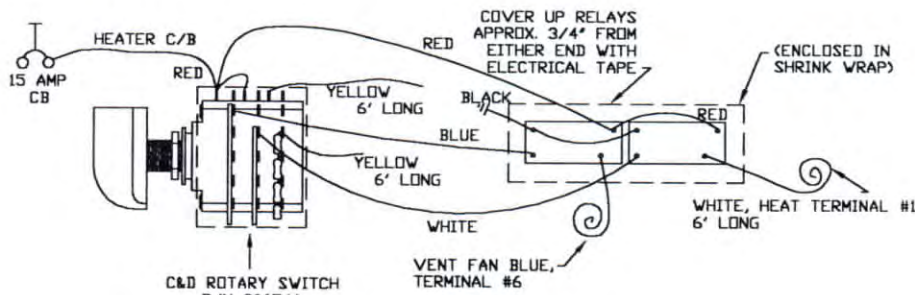

FIGURE 4
- b. If installing the new rotary heater control switch P/N 20654A, locate in a convenient location on the instrument panel. See wiring schematic Fig.4.